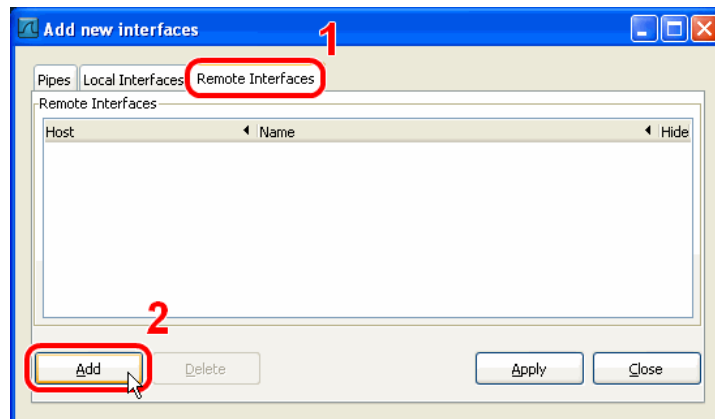

Figure 319: Wireshark Add New Interfaces Dialog.
3. Select the **Remote Interfaces** tab and click **Add** as shown in Figure 319.